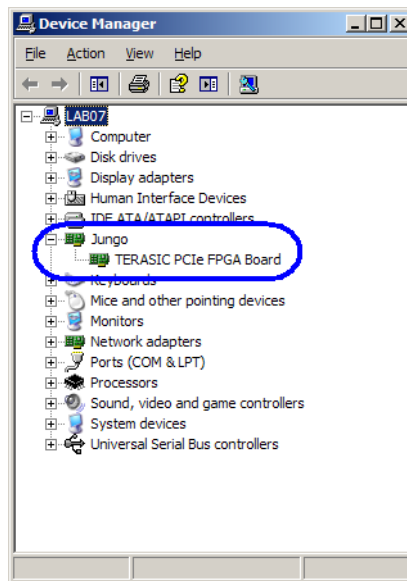

Figure 6-11 Device Manager
5. Once the driver is successfully installed, users can view the device under the device manager window shown in **Figure 6-11**.